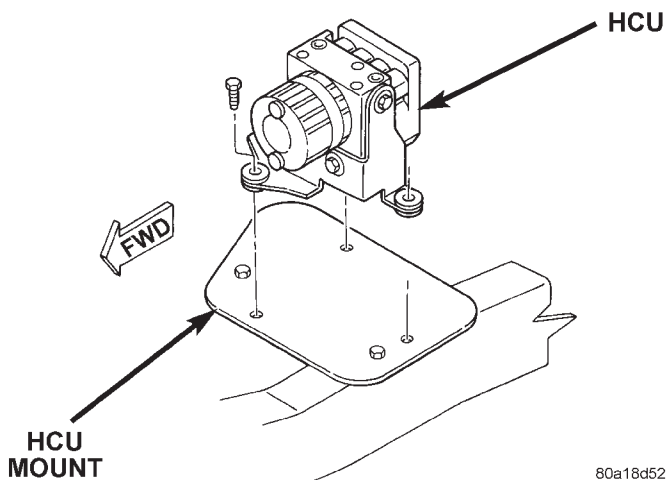

Fig. 8 HCU Mount
- (4) Remove HCU mounting bolts and remove HCU (Fig. 8).
- (5) Remove bolts from mount and remove mount from HCU.